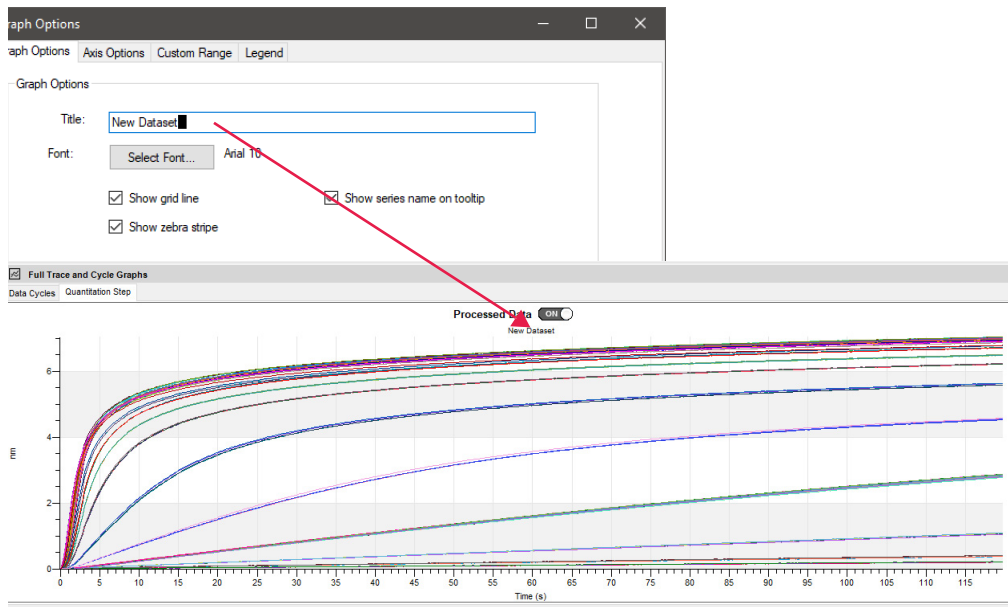

Figure 9-35: Adding a Graph Title
- **Title** - Adding text in the Title box displays that text above the graph (Figure 9-35).